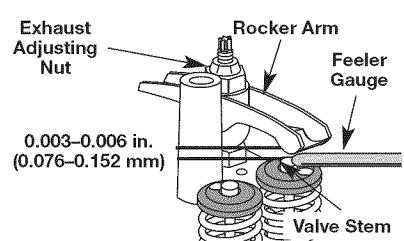

Fig. 27
7. Slide the feeler gauge between the rocker arm and the valve return spring. Measure the clearance between the valve stem and rocker arm (Fig. 27).
- a. Turn the adjusting nut using a 5/16 inch (8 mm) wrench or nut driver (Fig. 27).